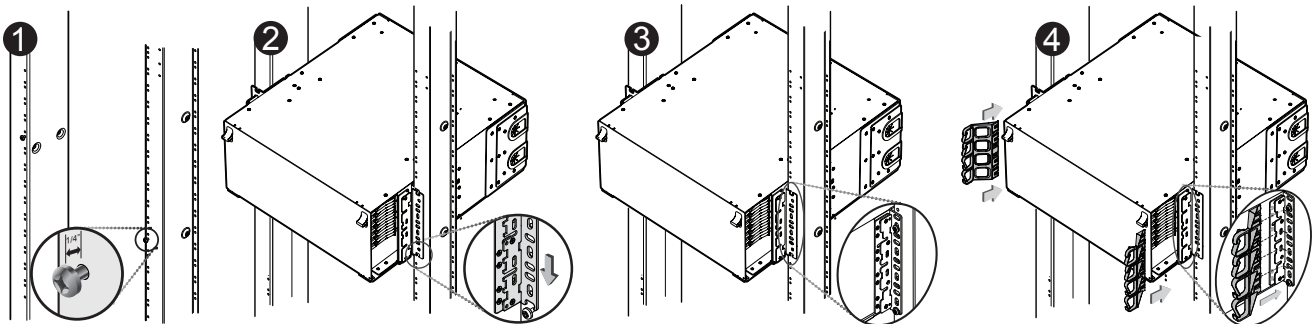

Figure 2
Step 1: Identify the position on the rack where the housing will be installed and partially install screws to rest the mounting brackets on Figure 2.